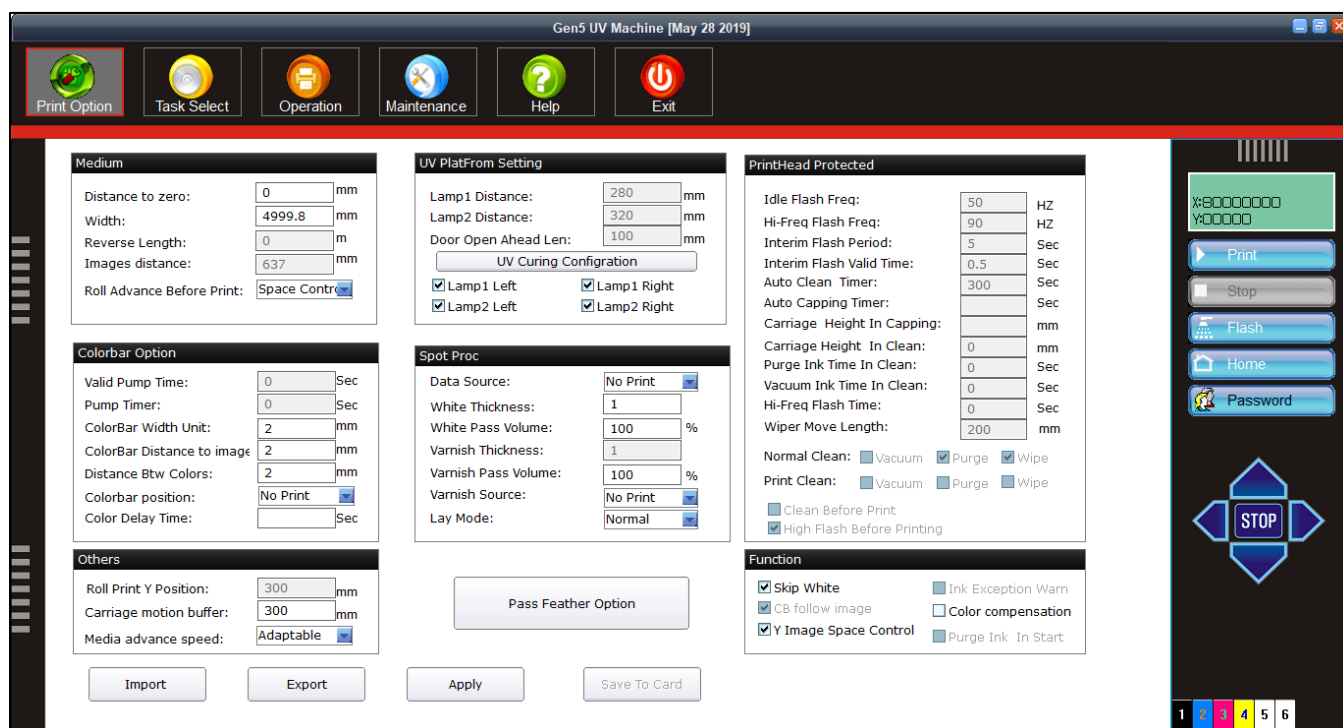

Fig 14: Displaying the Print Option Screen
**Step 1:** Click on the **Import** button to import a file (Refer to Fig 14).